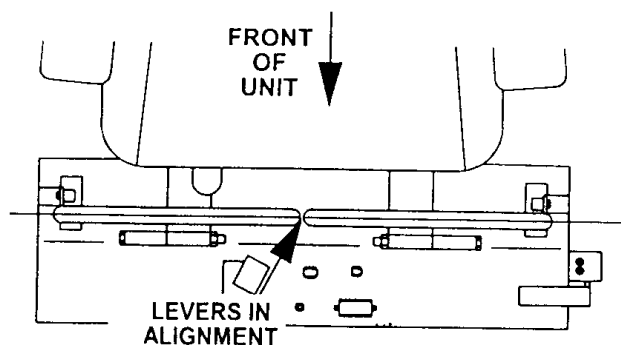

Figure 5
5. If the ends of the levers hit against each other, while in the drive position (Fig 5) (levers rotated in as far as possible) make adjustments by moving the levers outwards to the neutral lock position and carefully bend them outward. Move them back to the drive position and check for clearance. Repeat if necessary.